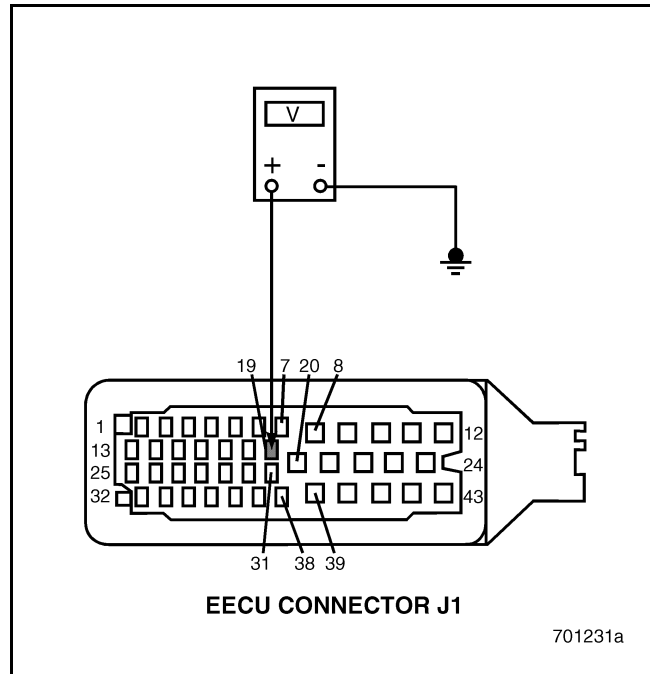

Figure 394
3. Disconnect the Engine Position (EP) Sensor connector.
5. Measure the voltage between EECU connector J1 pin 19 and a good ground (see Figure 394).